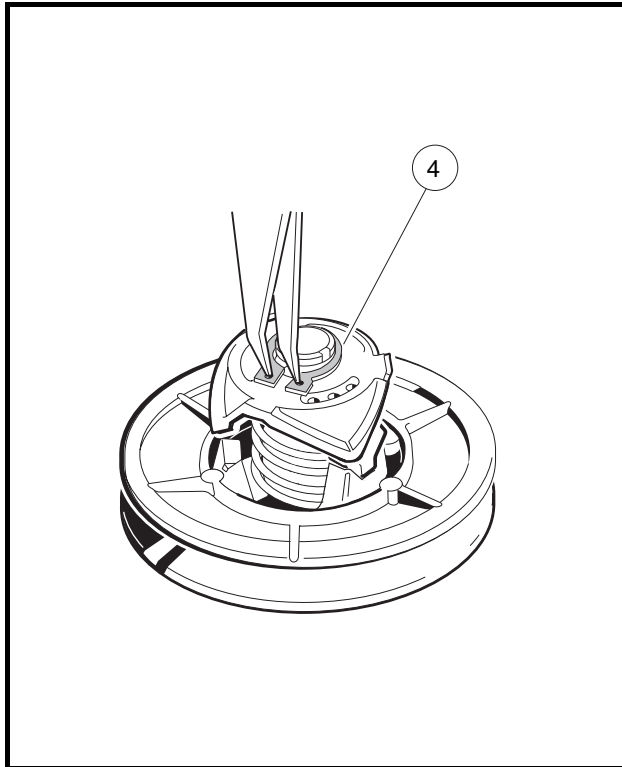

Figure 17-16 Remove Retaining Ring
1. Using external snap ring pliers, remove the retaining ring (4) (**Figure 17-16, Page 17-13**). See following **WARNING**.